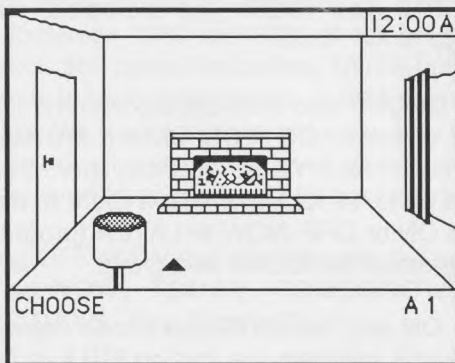
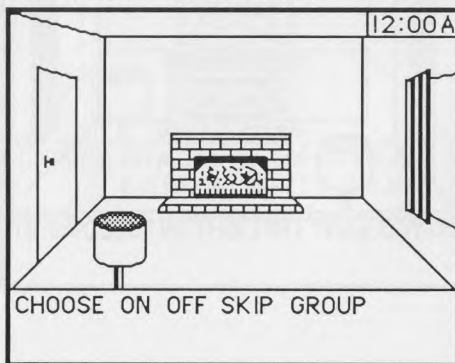

Figure 19.
Figure 20.
You choose an area in which you have previously installed ICONS using the joystick and the joystick button. Say you choose the Living Room, the room may look like that shown in Figure 19.
Figure 19 shows the ICON(S) which you previously installed and asks you to choose one to operate. You choose one with the joystick and the joystick button. Figure 20 then asks you to choose **ON**, **OFF**, **SKIP** or **GROUP**.